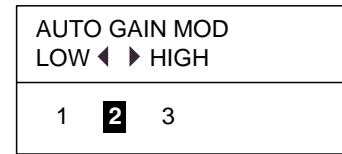

Figure 1-5 Dialog box for automatic adjustment of gain
1. Press the [GAIN] key once or twice to display the screen shown in Figure 1-5.